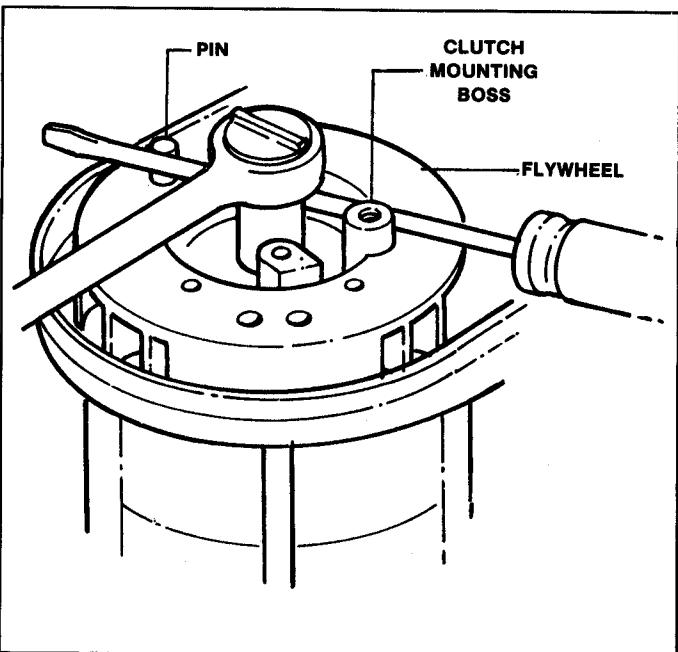

FIGURE 4.3
A. Remove flywheel retaining nut by inserting a 7.5mm (.29") dia. pin into cast hole in flywheel and fitting a screwdriver between pin and clutch mounting boss to prevent flywheel from turning. See Figure 4.3.